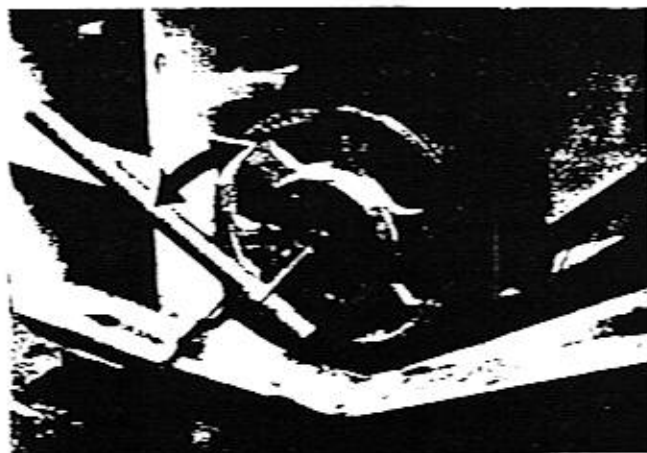

Figure 14-4
1. Insert a draglink socket or drum turning tool (mounted inside cutter drum V-belt guard on some models) into slot in drum sheave. Rotate drum with tool to position teeth for replacement. See Figure 14-4.